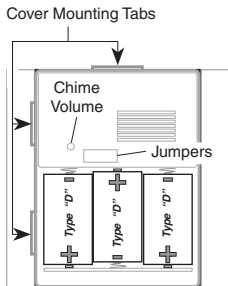

Figure 2
2. **Install 3 alkaline "D" batteries.** Make sure batteries are oriented properly (see Figure 2).
4. **Adjust volume control.** Adjust volume control to desired volume (see Figure 2).
- Replace batteries (see Figure 2).